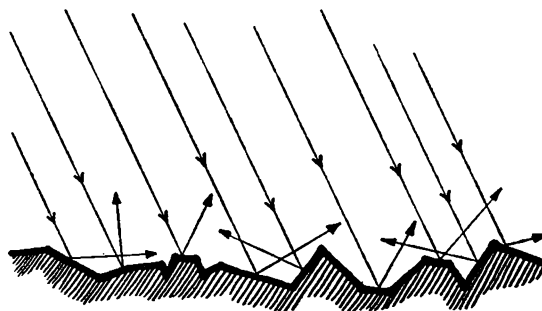

Fig. 210
Apart from the regular type of reflection which occurs at mirror surfaces, light is reflected from all kinds of surfaces. Most surfaces if viewed through a microscope would appear rather like Fig. 210, so that light is reflected in all directions. It is because light is reflected from objects that we see them. If no light is reflected from an object, the object cannot be seen. *What kind of surface reflects most light?* (15)